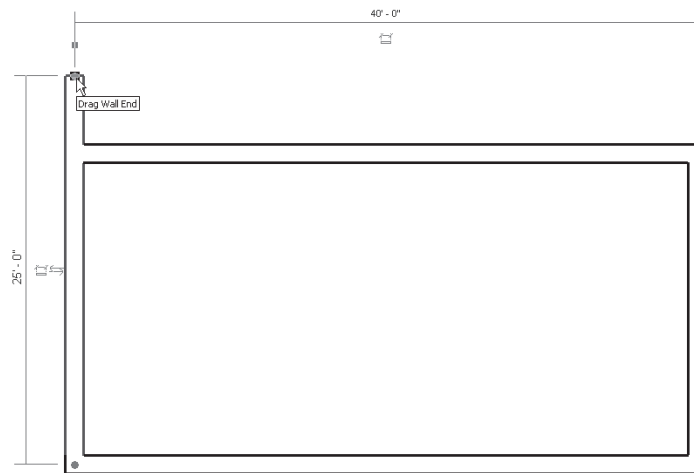

Figure 3-35 Using the drag control to modify the length of wall
1. With **Modify** as the selected option (default), select the fourth wall segment to display its controls. The two blue dots at its two endpoints are the drag controls. Move the cursor near the upper dot. The drag control now shows a square symbol, as shown in Figure 3-35. Press and hold the left mouse button at this point and drag the cursor vertically downward and bring it close to the start point of the first wall segment. The endpoint object snap is displayed and the tooltip shows **Endpoint and Vertical**.